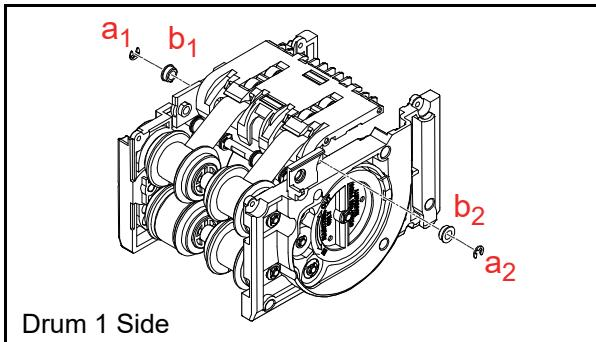

**Figure 4-104** Sponge Roller Assy. Removal (Drum 1 Side) 6
9. Remove the single (1) Shaft (Figure 4-104 *a*).
10. Remove the two (2) Pulleys (Figure 4-104 *b*1 & *b*2), the single (1) Flapper R (Figure 4-104 *c*) and the single (1) Flapper L (Figure 4-104 *d*) to remove the Sponge Roller Assy. (Figure 4-104 *e*).